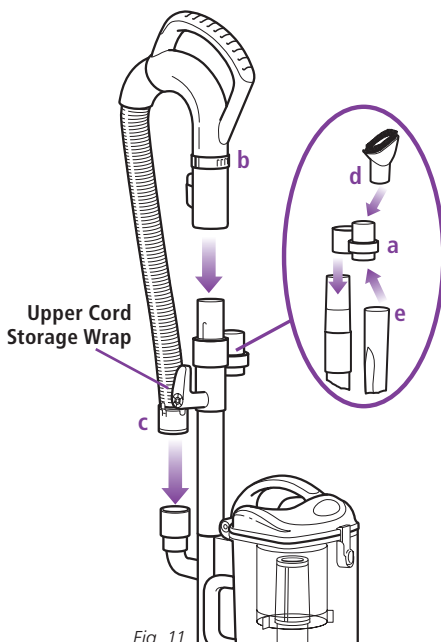

Fig. 11
- 4 Slide the accessory holder (a) positioned opposite the upper cord wrap, over the extension wand. Align the tab with the groove and push down. **(Fig. 11)**
- 5 Push the handle (b) onto the top of the extension wand until you hear it click into place. **(Fig. 11)**
- 6 Insert the end of the stretch hose (c) into the connector on the back of the *Lift-Away*® canister. **(Fig. 11)**
- 7 Store the dusting brush (d) and the crevice tool (e) on the mounts of the accessory holder. **(Fig. 11)**
- 5 **Due to the huge suction power of this vacuum, it may become necessary at times to adjust the suction release (c) on the handle. (Fig. 11) If the vacuum seems difficult to push or pull or if it is lifting up area rugs, adjust the suction release by rotating the collar 90° counterclockwise to open the valve. Rotate the collar clockwise to close the valve when you need high suction and for vacuuming floors.**